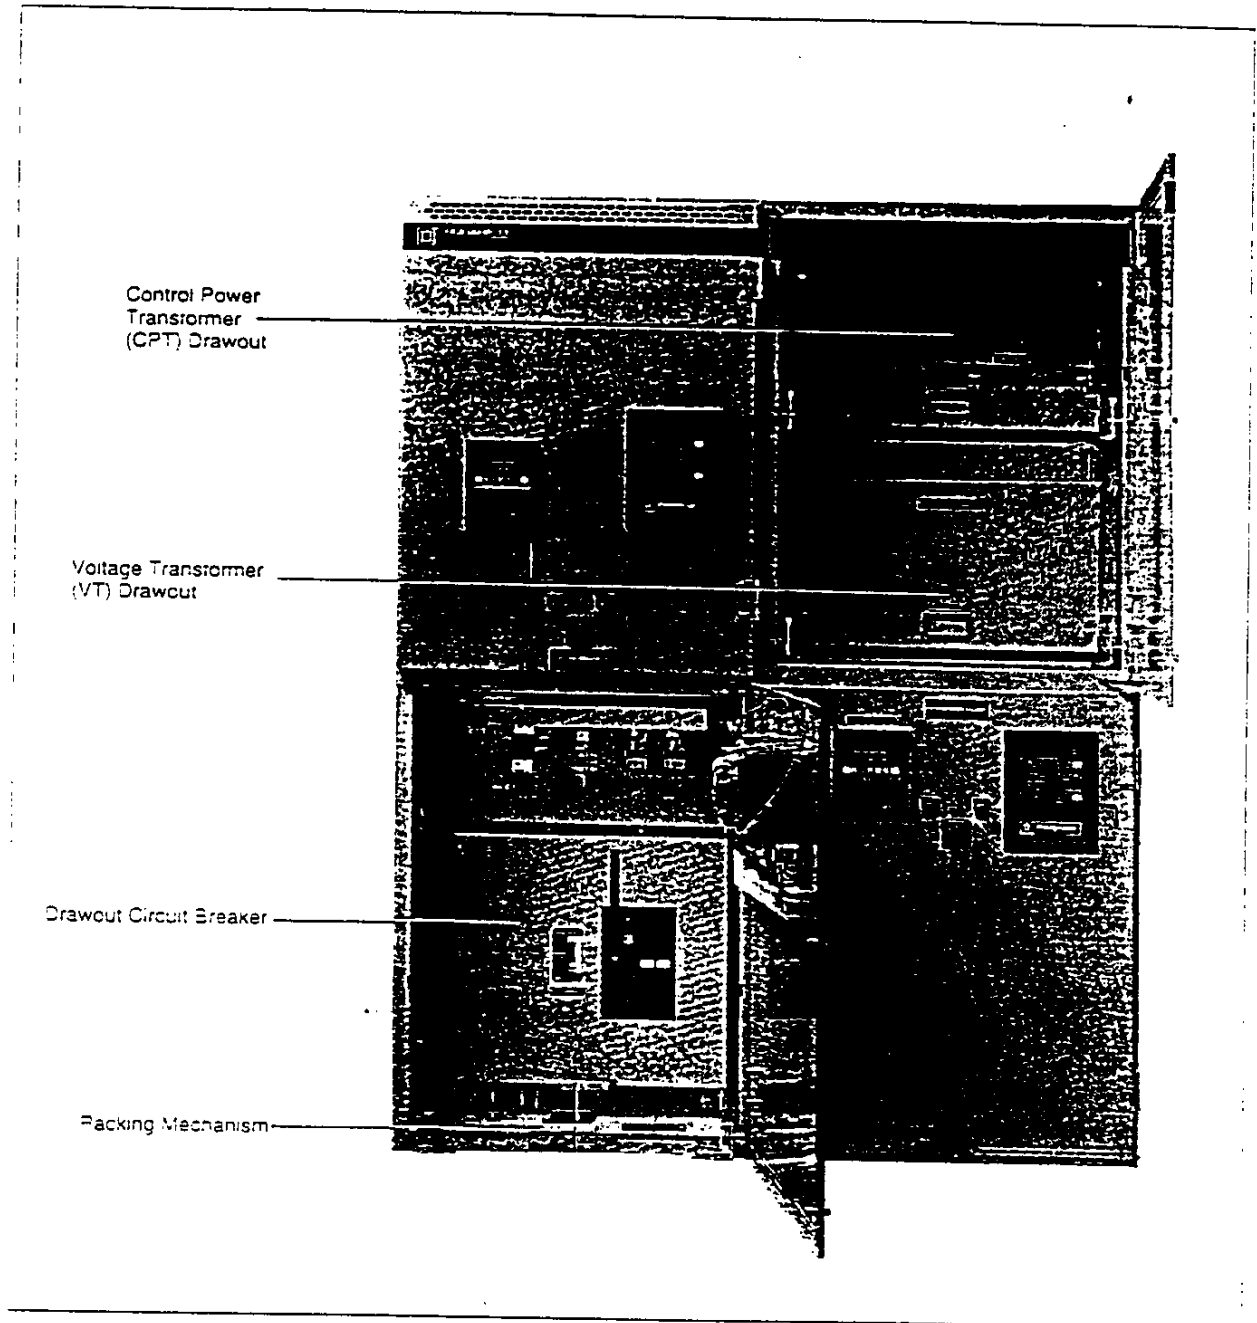

Figure 1: Circuit breaker cell, VT and CPT drawouts
Square D two-high 4.76–15.0 kV drawout MASTERCLAD metal-clad switchgear (figure 1, page 2) is designed to provide a reliable source for medium voltage power distribution. The drawout circuit breaker type VR employs state-of-the-art vacuum technology.
- The complete assembly arrangement determines if the top or bottom contacts are the line side; both can be energized when the circuit breaker is removed from the compartment (figure 1).